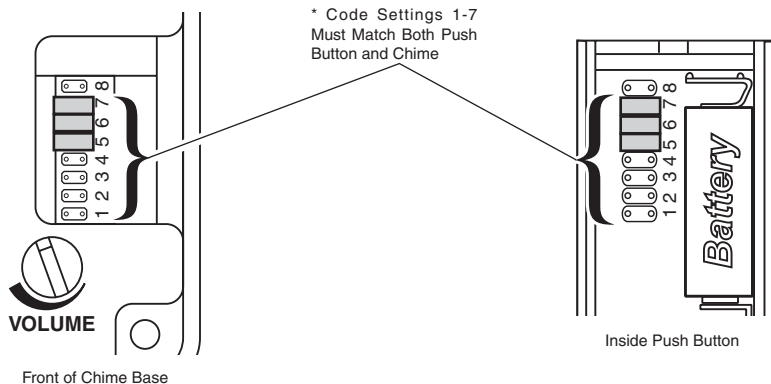

Figure 10
- Make sure push button and chime codes are the same (see Figure 10).
1. Open the cases and locate the jumpers on both the push button and chime (see Figure 10).
*Note:* Unit will come factory set with jumpers in locations 5, 6, and 7 on the push button and on the chime (see Figure 10).